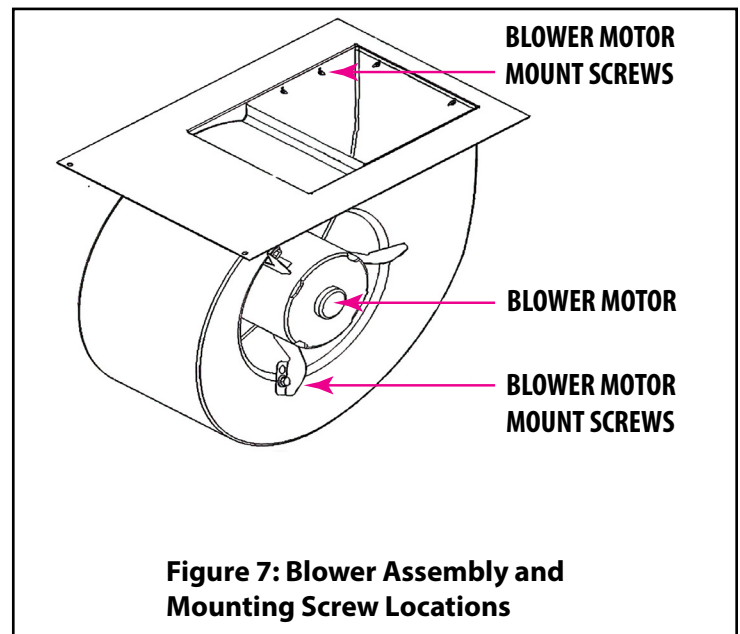

Figure 7: Blower Assembly and Mounting Screw Locations
5. Remove the two screws on the left and right side and the center screw on the bracket in front of the blower mounting plate and slide the blower out (See Figure 7).